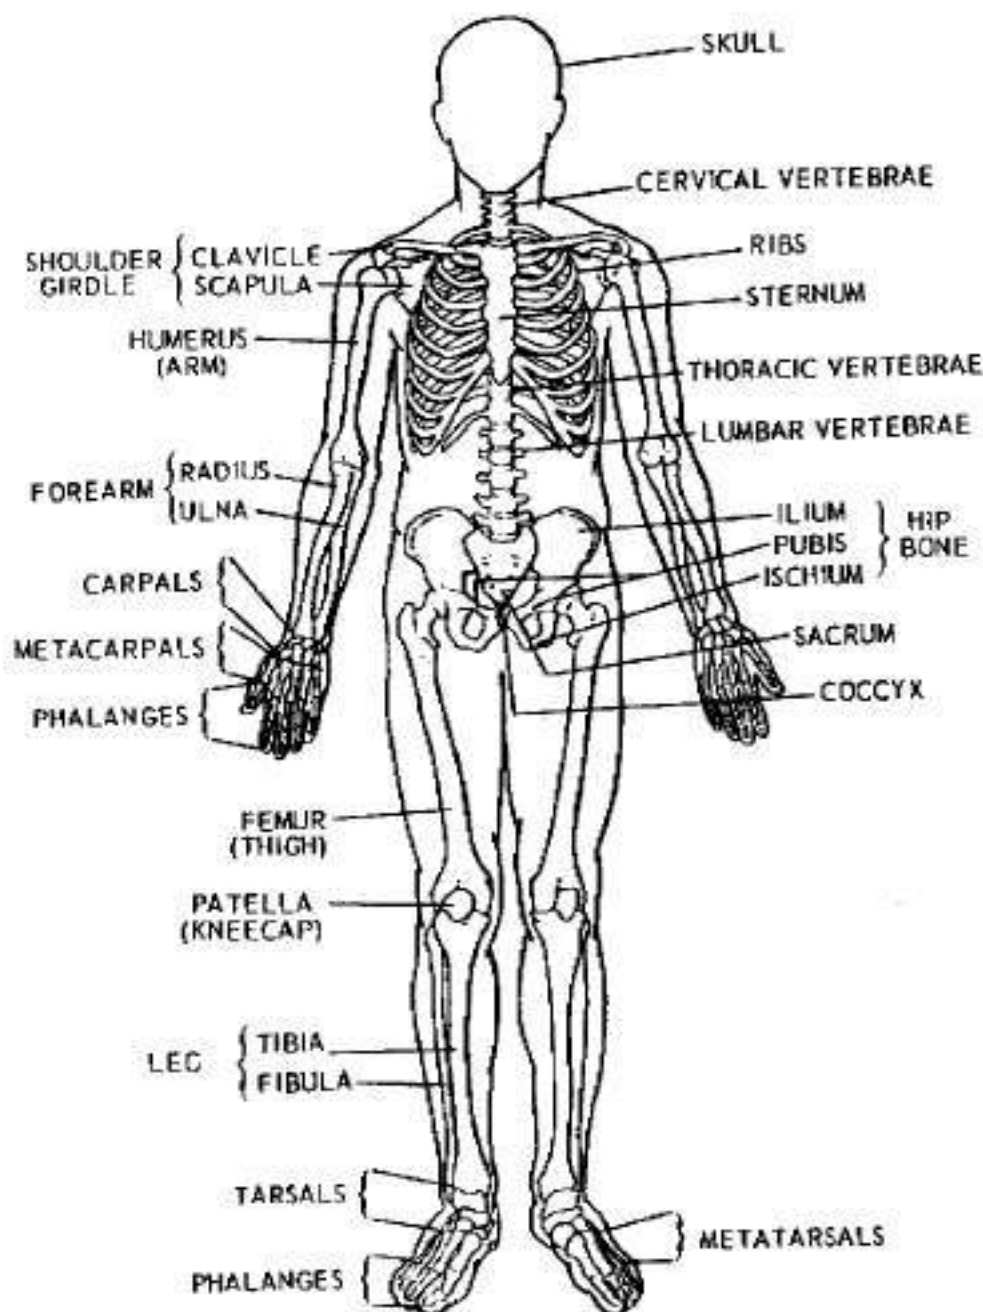

Figure 12-1. The human skeleton.
a. Skeleton. The skeleton, or bony framework (fig 12-1), in the adult is made up of about 200 bones. Bones are living tissue even though the spaces between bone cells consist of inorganic deposits of calcium. Each bone is a separate organ with its system of blood, lymphatic vessels, and nerves.
(1) The skeleton gives form and stability to the body, protects many organs, furnishes a system of levers which allow the body to move, and manufactures blood cells in the red bone marrow.
(2) The periosteum, a thin membrane, on the outside of each bone, is essential for the nourishment, growth, and repair of bone. The hard, dense, outer layer of bone, known as the compact bone, is thick along the shaft and thin at the ends. It gives bone its great strength.
(3) The inner spongy bone is made of the same material as compact bone but it is more porous. It makes the bone lighter without sacrificing strength. Bone marrow is found mostly in the shafts of long bones. Within bone marrow, fats are stored and new red blood cells are produced.